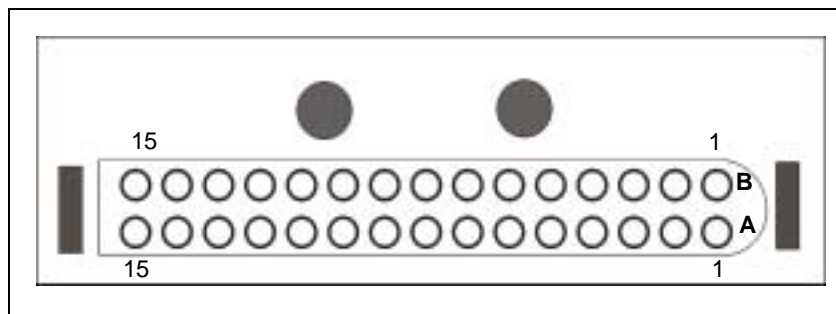

Figure 9: 30-pin Bendix connector.
Step 2 – Using *Figure 9* and Expected Readings – Table 3-3 below for the correct pin locations, connect the negative multi-meter lead to the connector pin on Row A and connect the positive multi-meter lead to the connector pin on Row B.